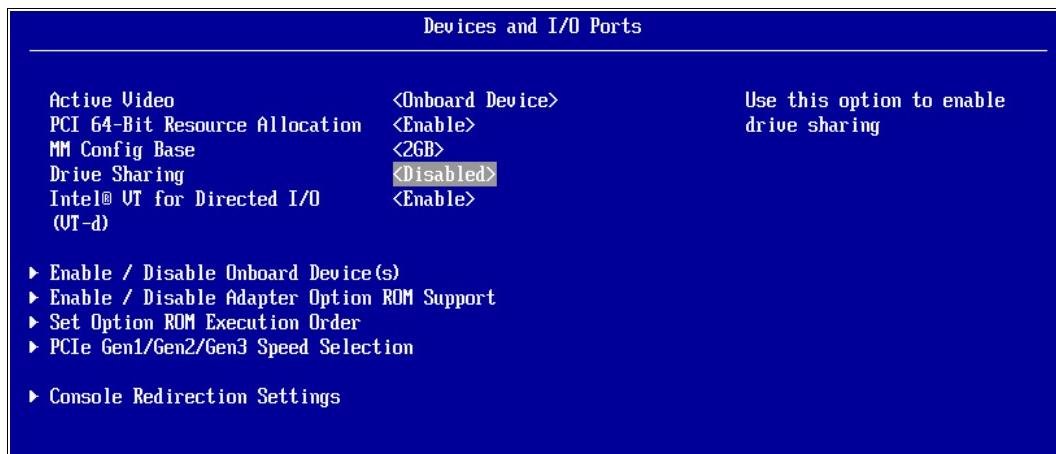

Figure 5-30 Drive Sharing enablement for vertical RAID
- Access the menu in UEFI by selecting **System Settings** → **Devices and I/O Ports** as shown in Figure 5-30. Highlight **Disabled** next to Drive Sharing and press Enter to change Disabled to Enabled. Exit UEFI and allow the system to restart.